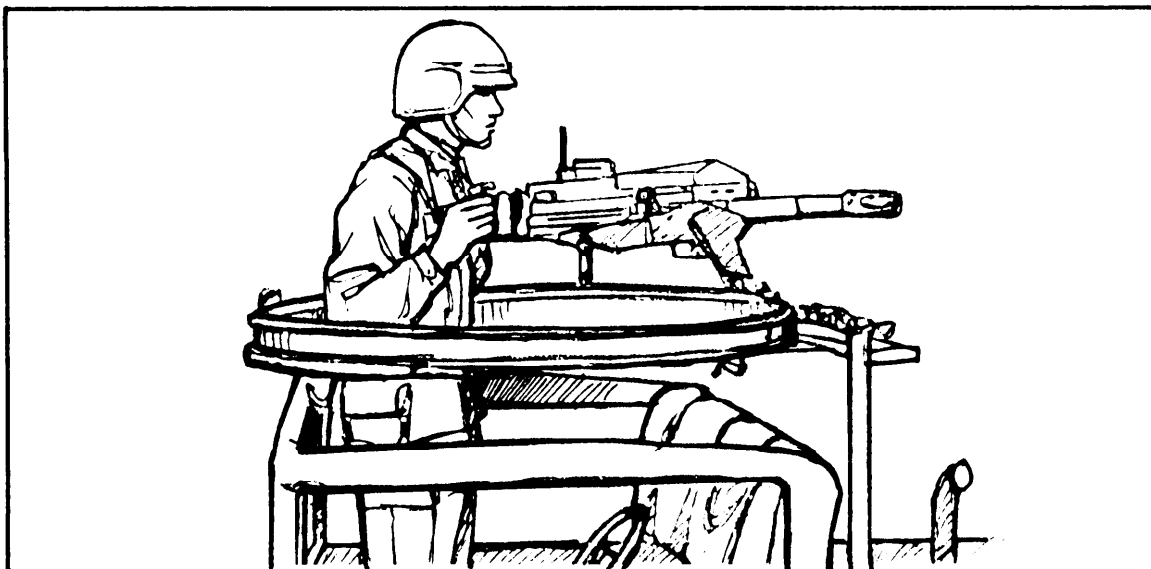

Figure 5-2. Standing position.
b. Standing. When the MK 19 is mounted on a vehicle, stand with both hands on the control grips and the thumbs resting on the trigger. Keep the elbows against the body, the body forward, and the chest against the hands to brace the gun (Figure 5-2).